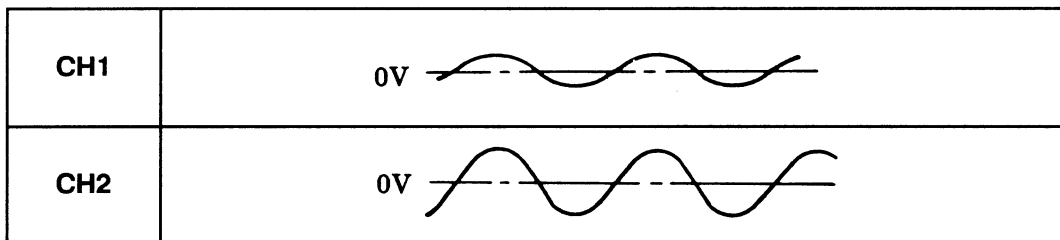

Fig.8-2
When either the CH1 or CH2 input signal is smaller as shown in Fig. 8-2, adjust the VOLTS/DIV switch (10) to obtain sufficient